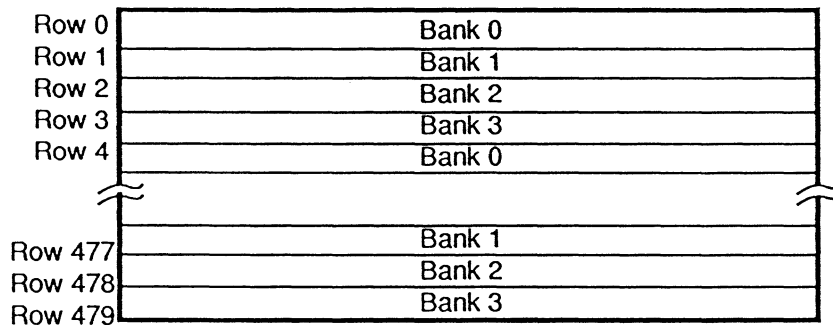

FIGURE 54. ROW/BANK INTERLEAVING
- *Row/bank interleaved.* This addressing mode is used for display resolutions of 640 x 480 with 32 bpp (with or without convolution - see the following section on 1-8 bpp convolution addressing for a description of the convolution process). All four banks of VRAM are required for this mode. Memory is organized in rows, with each row being 1024 long words (or 1024 pixels, since each pixel is 32 bits) in length. Row 0 resides in bank 0, row 1 in bank 1, etc., with row N occurring in bank N modulo 4. This configuration is shown in Figure 54. Row/bank interleaving can be used with fast page mode operation to increase the effective bandwidth into frame buffer memory for graphics operations such as scrolling and block moves. See Section 6.5.4 for a more complete description.